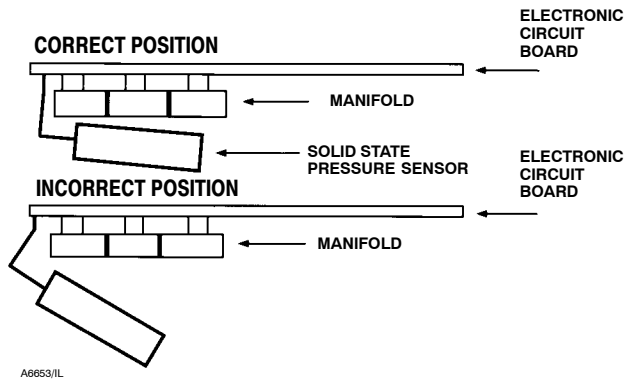

Figure 6-5. Positioning the Pressure Sensor
3. Ensure that the pressure sensor is correctly positioned against the manifold. The pressure sensor should be centered and in contact with the manifold, as shown in figure 6-5.